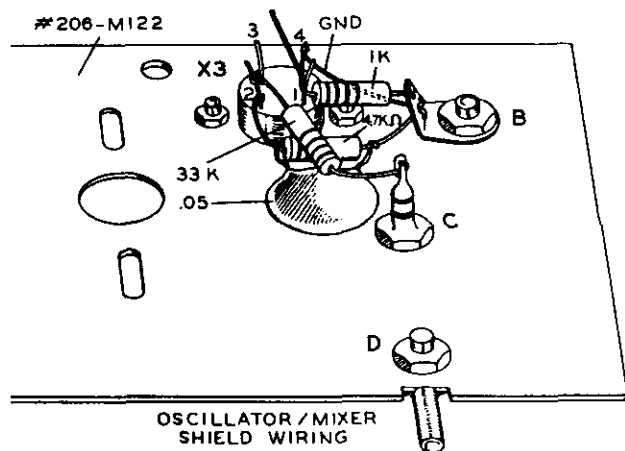

Figure 4A
Refer to Figure 4, Figure 4A and Detail 11 for the following steps.
- 5) Connect one end of a 3/4" length of bare wire to pin 4 of transistor socket X3 (S-1). Connect the other end to the bottom hole in ground lug B (NS). See Figure 4A.